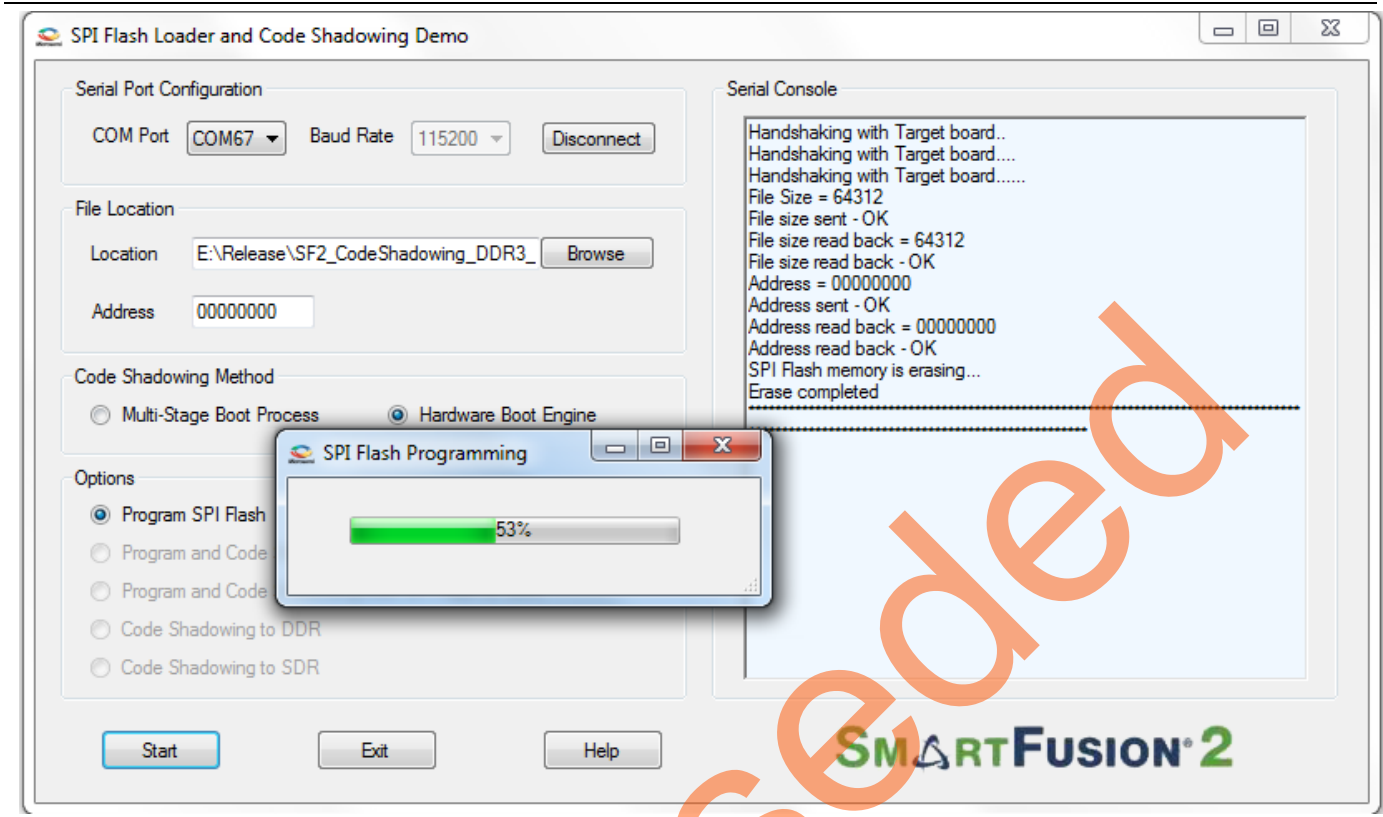

Figure 16. Flash Loading
11. The Serial Console section on the GUI shows the debug messages and the status of SPI flash writing, as shown in Figure 16.